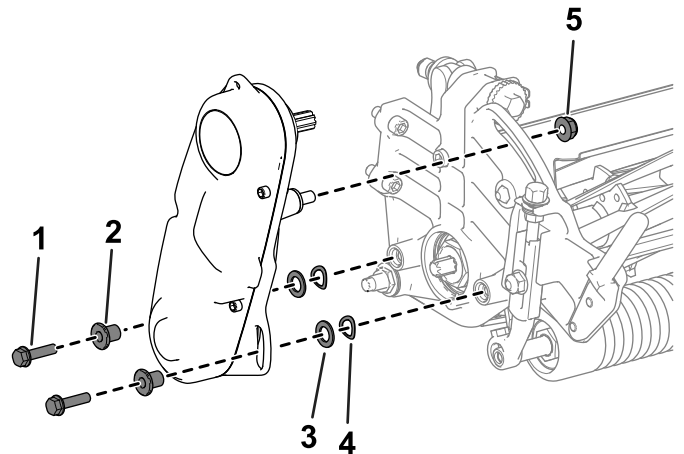

Figure 43
2. Remove the hardware that secures the reel-drive assembly to the side plate (Figure 43).
3. Remove the reel-drive assembly, flat washers, spring washers, and spacers from the side plate (Figure 43).